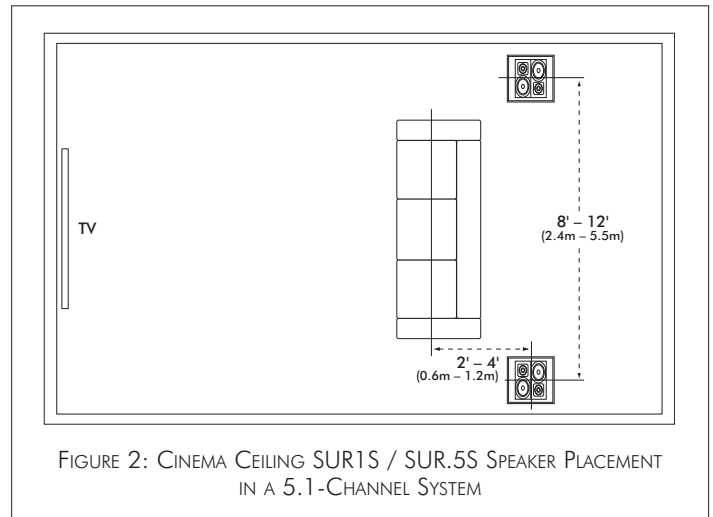

FIGURE 2: CINEMA CEILING SUR1S / SUR.5S SPEAKER PLACEMENT IN A 5.1-CHANNEL SYSTEM
5.1-Channel System (see Figure 2)